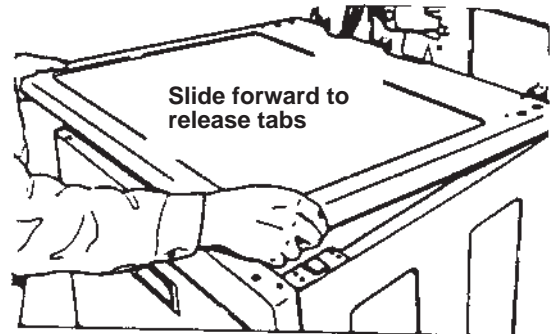

Figure 3
4. Slide top forward to release from front clips and rear tabs. See Figure 3.